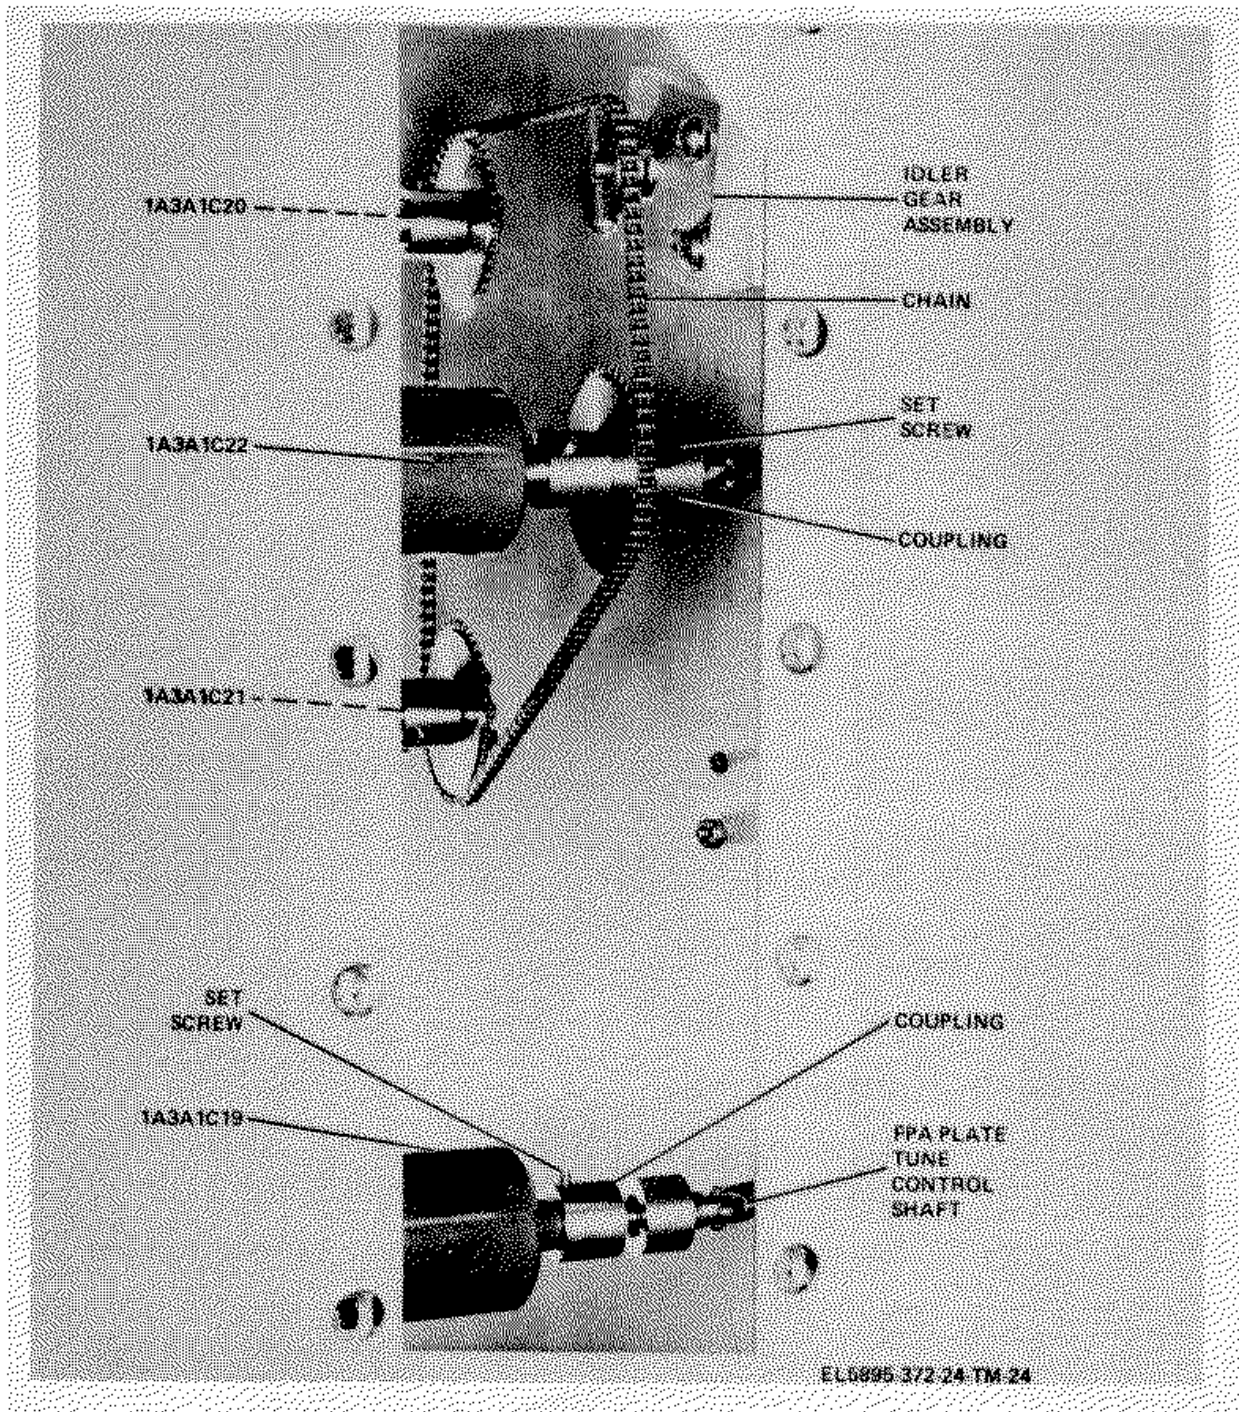

Figure 4-9. Fpa 1A3A1C19 tuning adjustment.
(4) Loosen setscrews on coupling securing fpa plate tune control shaft and 1A3A1C19 tuning shaft (fig. 4-9).
(5) Adjust fpa plate tune control on rfa for 20 on PA PLATE TUNE indicator dial.
(6) Adjust 1A3A1C19 tuning shaft until plates on capacitor are just barely separated.
(7) Tighten setscrews on coupling securing
fpa plate tune control shaft and 1A3A1C19 tuning shaft (fig. 4-9).
(11) Remove both left and right rfa access covers.
(12) Loosen setscrew on coupling securing fpa plate tune control shaft and 1A3A1C19 tuning shaft (fig. 4-9).
(13) Adjust fpa plate tune control for 20 on PA PLATE TUNE indicator dial.
(14) Tighten setscrew on coupling securing fpa plate tune control shaft and 1A3A1C19 tuning shaft (fig. 4-9).
(15) Install both left and right rfa access covers.
(16) Set control unit HIGH VOLTAGE switch to on (yellow) and adjust rt unit RF output control for 2kW output.
(17) Tune rfa for 20 MHz and verify that pa plate tune indicator dial is set at 20.
(a) Loosen setscrews securing coupling to fpa load tune control and capacitor linkage assembly shaft (fig. 4-9).
(b) Loosen screws on idler gear assembly (fig.4-9).
(g) Position idler gear assembly for proper chain tension and then tighten screws to secure idler gear assembly (fig. 4-9).
(h) Tighten setscrews securing coupling to fpa load tune control and capacitor linkage assembly shaft (fig. 4-9).
(5) If capacitor 1A3A1C20 or 1A3A1C21 was replaced, repeat steps (4 (b) through (h) above.
(6) Install both left and right rfa access covers.
(7) Tune the AN/TLQ-15 for 2 kW at 20 MHz into dummy load. Refer TM 11-5895-372-10 for tuning procedure.
(8) Set rt unit rf output control fully ccw and set control unit HIGH VOLTAGE switch to off (white).
(9) Remove both left and right rfa access covers.
(10) Loosen setscrew on coupling securing fpa load tune control shaft and capacitor linkage assembly shaft (fig 4-9).
(11) Adjust fpa load tune control for 20 on PA PLATE TUNE indicator dial.
(12) Tighten setscrew on coupling securing fpa load tune control shaft and capacitor linkage assembly shaft (fig.4-9).
(13) Install both left and right rfa access covers.
(14) Set control unit HIGH VOLTAGE switch to on (yellow) and adjust rt unit RF OUTPUT control for 2kW output.
(15) Tune rfa for 20 MHz and verify that PA LOAD TUNE indicator dial is set at 20.